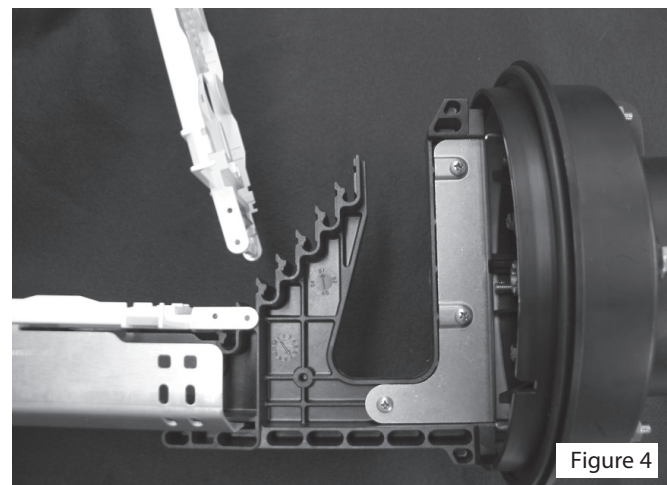

Figure 4
2. To remove splice trays from the closure base, raise the tray. Pull the tray hinge out of the tray holder bracket, releasing the tray. (Figure 4)